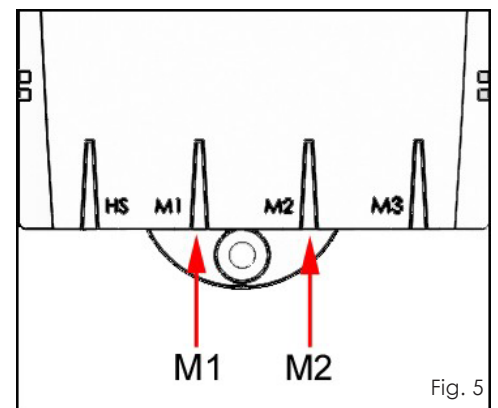

Fig. 5
6. Plug both cables from the hydraulic pump into their designated locations on the control module. The plugs and control module locations are labeled "M1" and "M2". (Fig. 5)